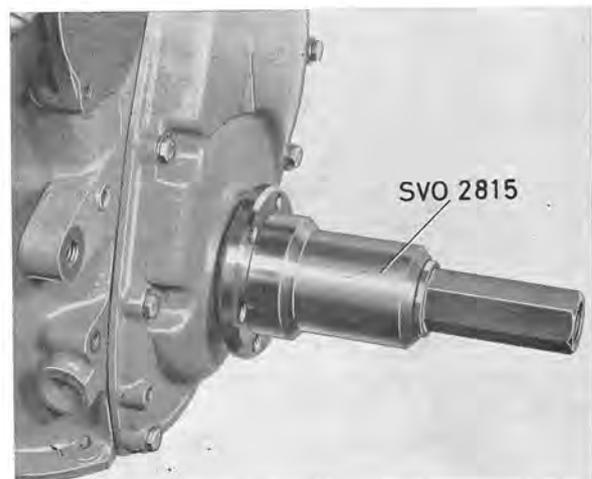

Fig. 2-39. Fitting polygon hub
5. Fit the polygon hub with tool 2815, see Fig. 2-39. Before fitting, the sliding surfaces of the polygon hub should be greased. **Note the marking**, that is, the center punch marks on the crankshaft end and polygon hub. Fit the center bolt and tighten it to torque of 70—80 Nm (50—57 lbft).